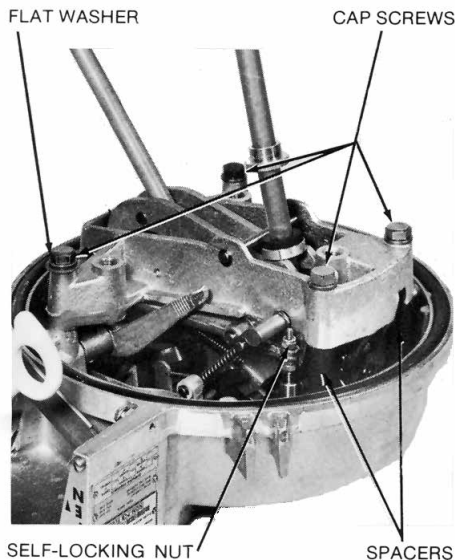

Figure 49. Head operating mechanism
Disassembly of the head mechanism should rarely be required. Should removal be necessary, for any reason, follow these steps and refer to Figures 49 through 57.
2. Figure 49 shows a head assembly as it appears after the arc-interrupting structure, series-trip solenoid, hydraulic mechanism, insulating stringers, and bushings have been removed. Remove self-locking nut and four hex cap screws indicated in Figure 49. Note use of flat washer under cap screw nearest the operating lever. Also note that two pipe spacers will be released.